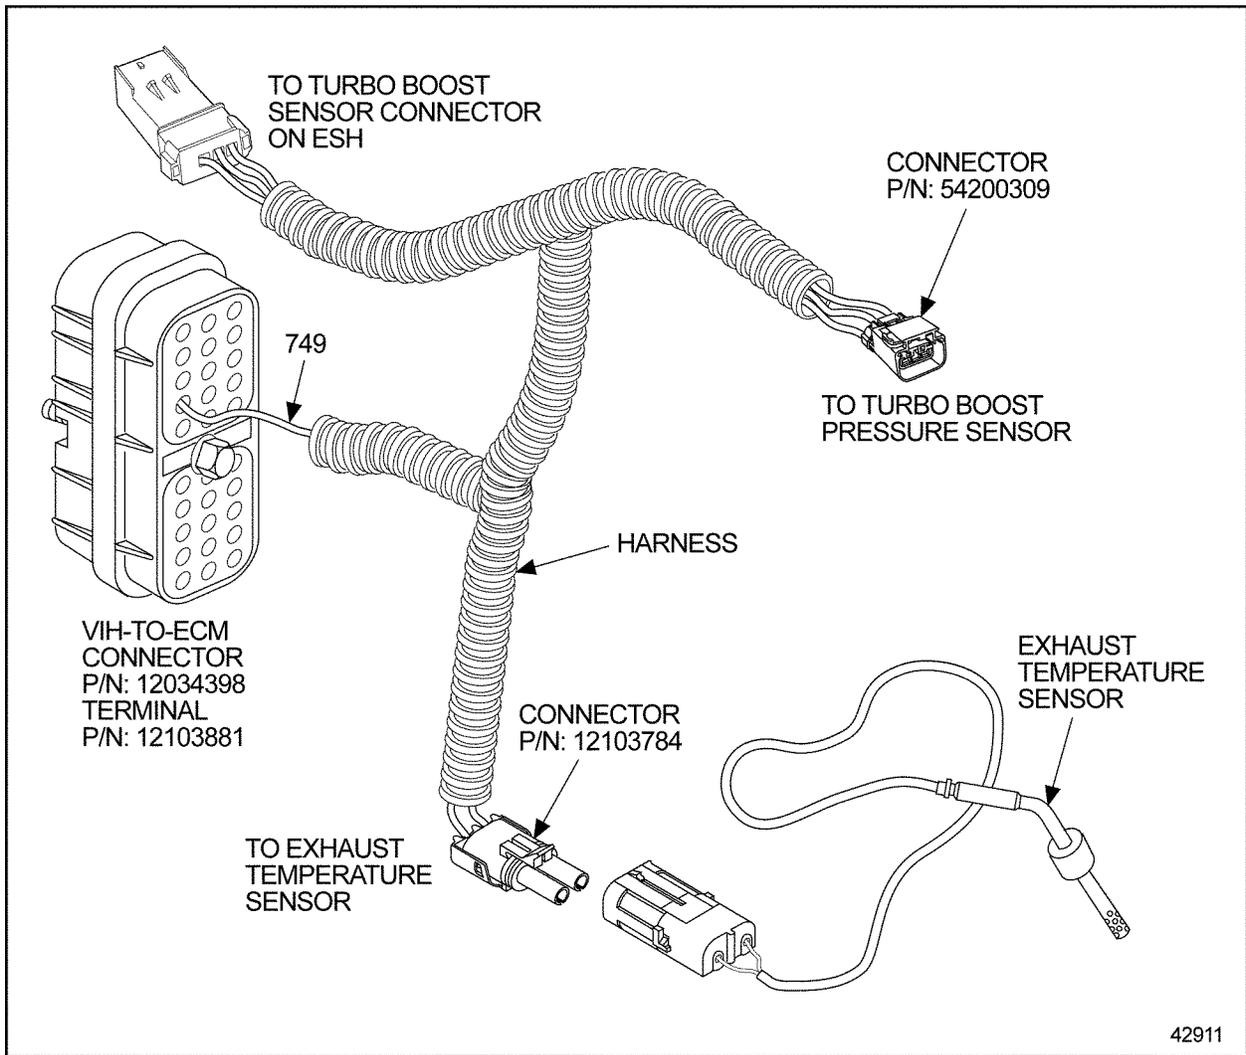

Figure 1. Exhaust Temperature Sensor Harness (to be removed)
1. With the engine at ambient temperature (cool to the touch) and the starting system disconnected/disabled, check to see if an exhaust temperature sensor harness is installed. If installed, remove the existing harness from the engine, keeping the following points in mind (see Figure 1):